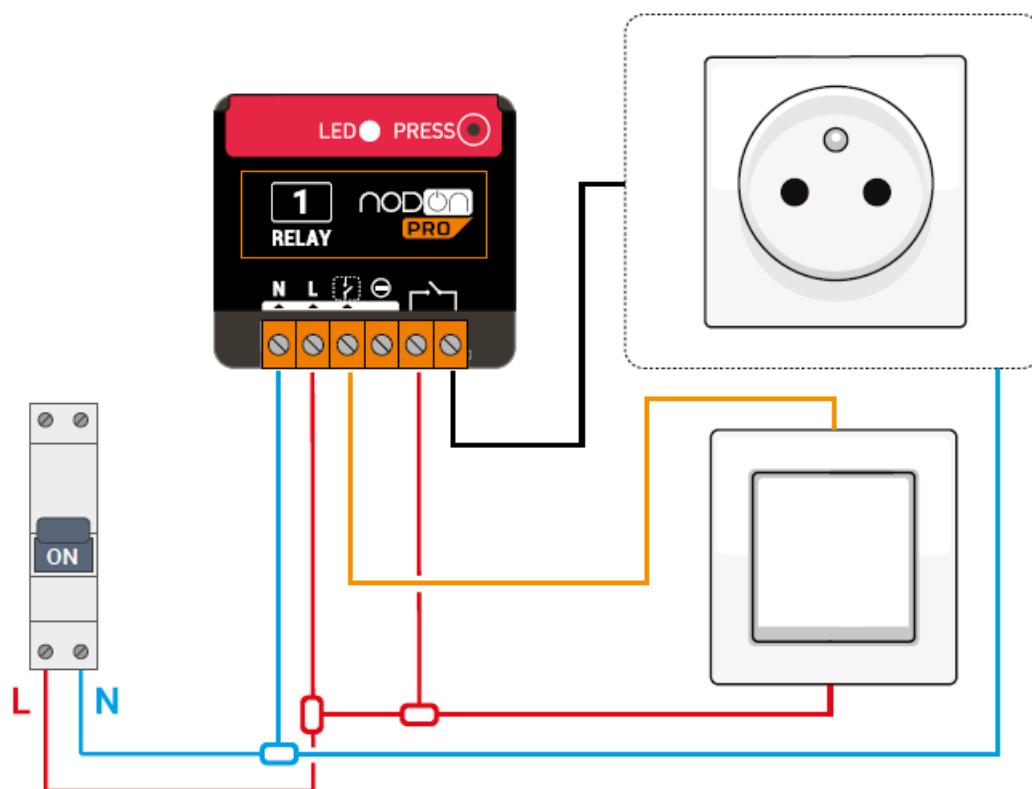

Figure 2
3. Wire the Multifunction Relay Switch, following the diagram figure 2.